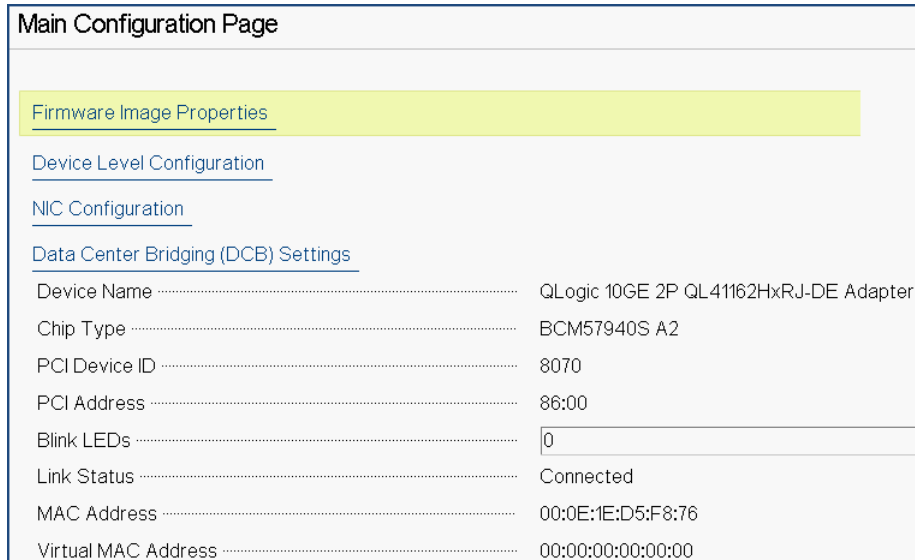
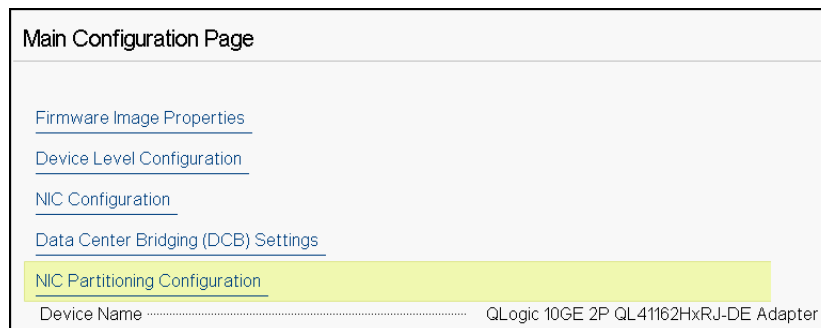

Figure 5-3. Main Configuration Page
Figure 5-4. Main Configuration Page, Setting Partitioning Mode to NPAR
The Main Configuration Page (Figure 5-3) presents the adapter management options where you can set the partitioning mode.
4. Under **Device Level Configuration**, set the **Partitioning Mode** to **NPAR** to add the **NIC Partitioning Configuration** option to the Main Configuration Page, as shown in Figure 5-4.
In Figure 5-3 and Figure 5-4, the Main Configuration Page shows the following:
1. On the Main Configuration Page, select **Device Level Configuration** (see Figure 5-3 on page 46), and then press ENTER.
1. On the Main Configuration Page, select **NIC Configuration** (Figure 5-3 on page 46), and then click **Finish**.